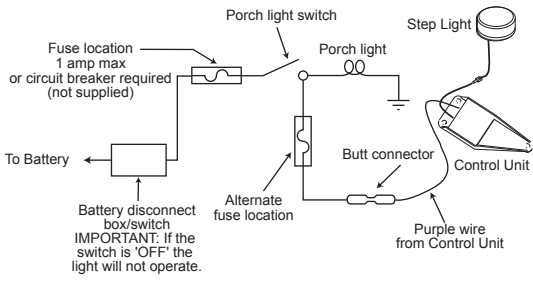

FIGURE 10: Wiring diagram for step with control unit
The step will not function if the ground to the control unit is lost between the step control unit and the vehicle chassis (the long green ground wire) or between the vehicle battery and the ground (negative battery cable). Make sure the battery terminals and all wire connections are clean and tight. Verify that all wires meet the minimum requirements specified in **Figures 10, 11, and 12** on page 9.
3. Disconnect 4-way connector on underside of step and connect the step-half of the connector to the four-way connector pigtail. **See Figures 10, 11, and 12** on Page 9.